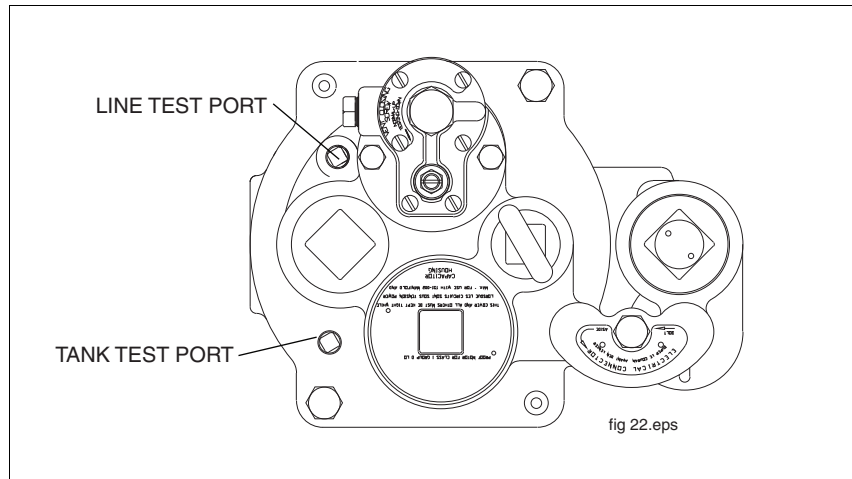

Figure 27. Line test port
3. Remove line test port plug and apply line test pressure at line test port (50 psi [345 kPa] maximum) - see Figure 27.